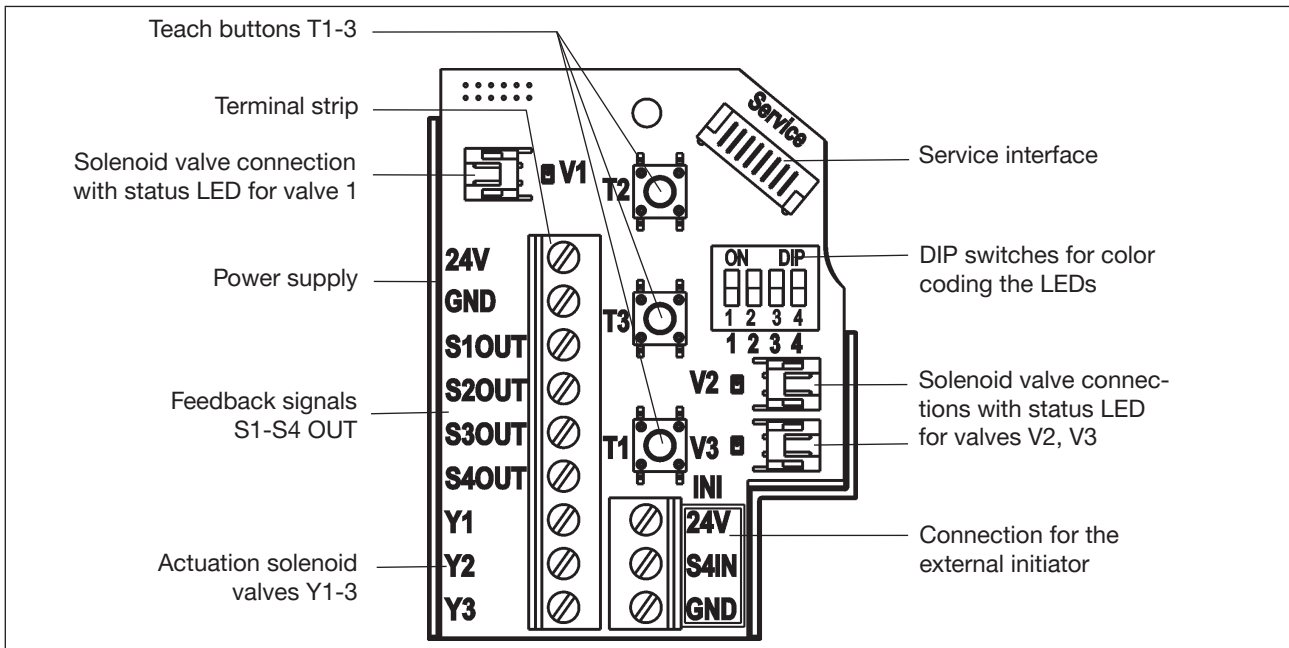

Fig. 17: 24 V DC electronic module
- Connect the wires to the connection terminals according to the connection assignment described in “Fig. 17”.